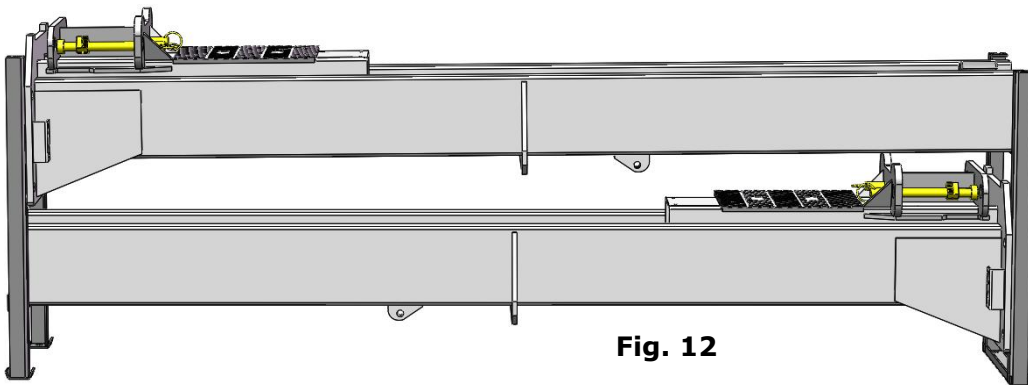

Fig. 10
1. Received lift and hydraulic power unit (See Fig.10).